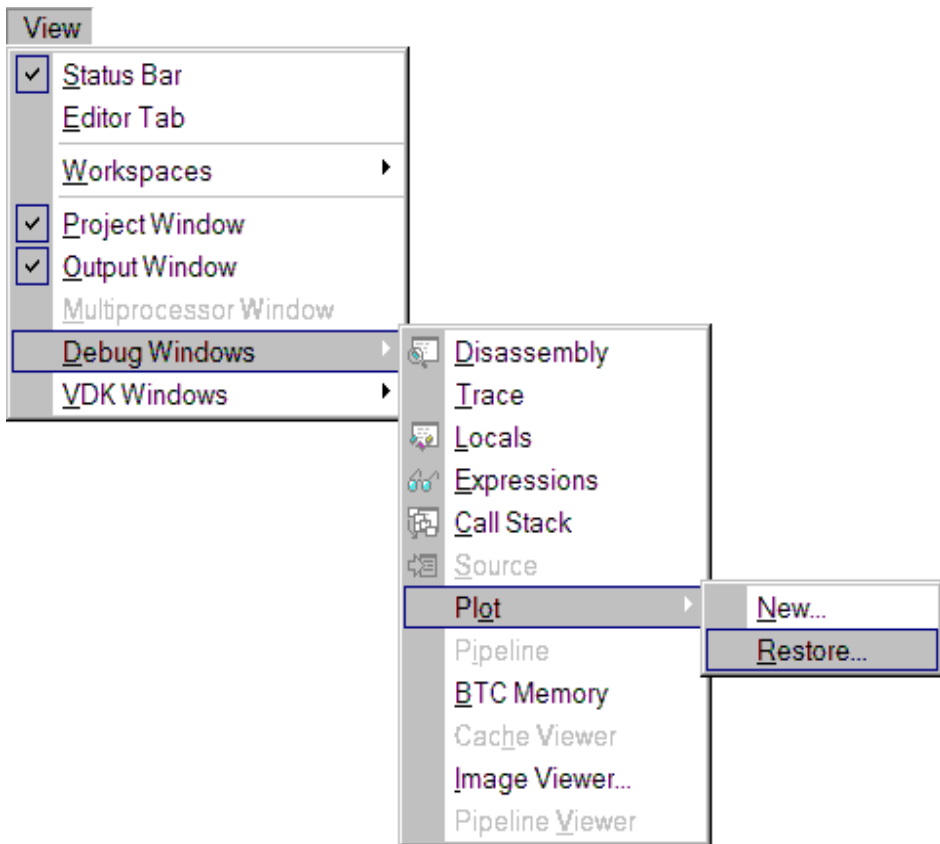

Figure 3-25. Plot Restore Menu Option
2. From the **View** menu, choose **Debug Windows, Plot**, and then **Restore**, as shown in Figure 3-25.